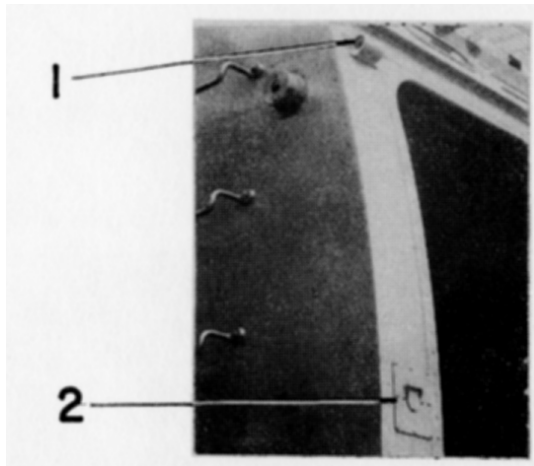

FIG. 36
7. Refer to Fig. 36. This outside red signal light is located on each side of the car. Both outside signal lights are lighted when any Side Entrance door in that car is open. When all doors of a train are open, it follows then that all signal. lights on the train will be lighted for attendant observation.
8. Refer to Fig. 36. An outside crew switch is provided adjacent to each door for opening that door. The key may be removed through a slot provided in that position. To close door, the key must be reinserted and turned to its original position.